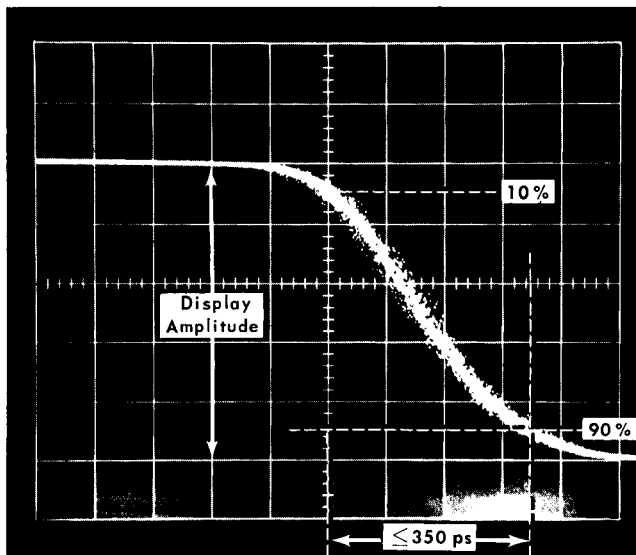

Fig. 8-6. 0.35 nSec 10% to 90% risetime of Type 3S1, Step 3.
similar to Fig. 8-6**
to Fig. 8-6**
b. Adjust the Timing Unit Trigger Sensitivity control for a minimum noise, stable negative pulse display. Use the Time Position and Horizontal Position controls to place the negative step near the graticule center. Then, adjust the Type 3S1 VARIABLE deflection factor control for a step display of 5 divisions from 0% to 100%. Place the 10% point at the graticule vertical centerline, and measure the time between there and the 90% point. Use Fig. 8-6 as an example of a correct 0.35 ns 10% to 90% risetime display.